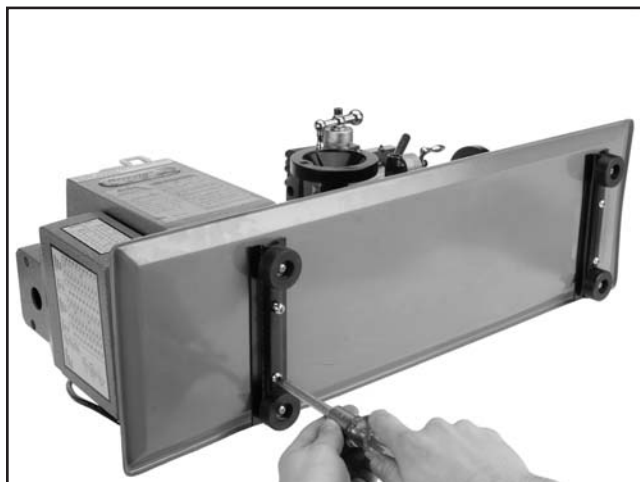

Figure 7. Installing the feet.
2. Attach the two brackets with the screws you removed in **Step 1** (see **Figure 7**).